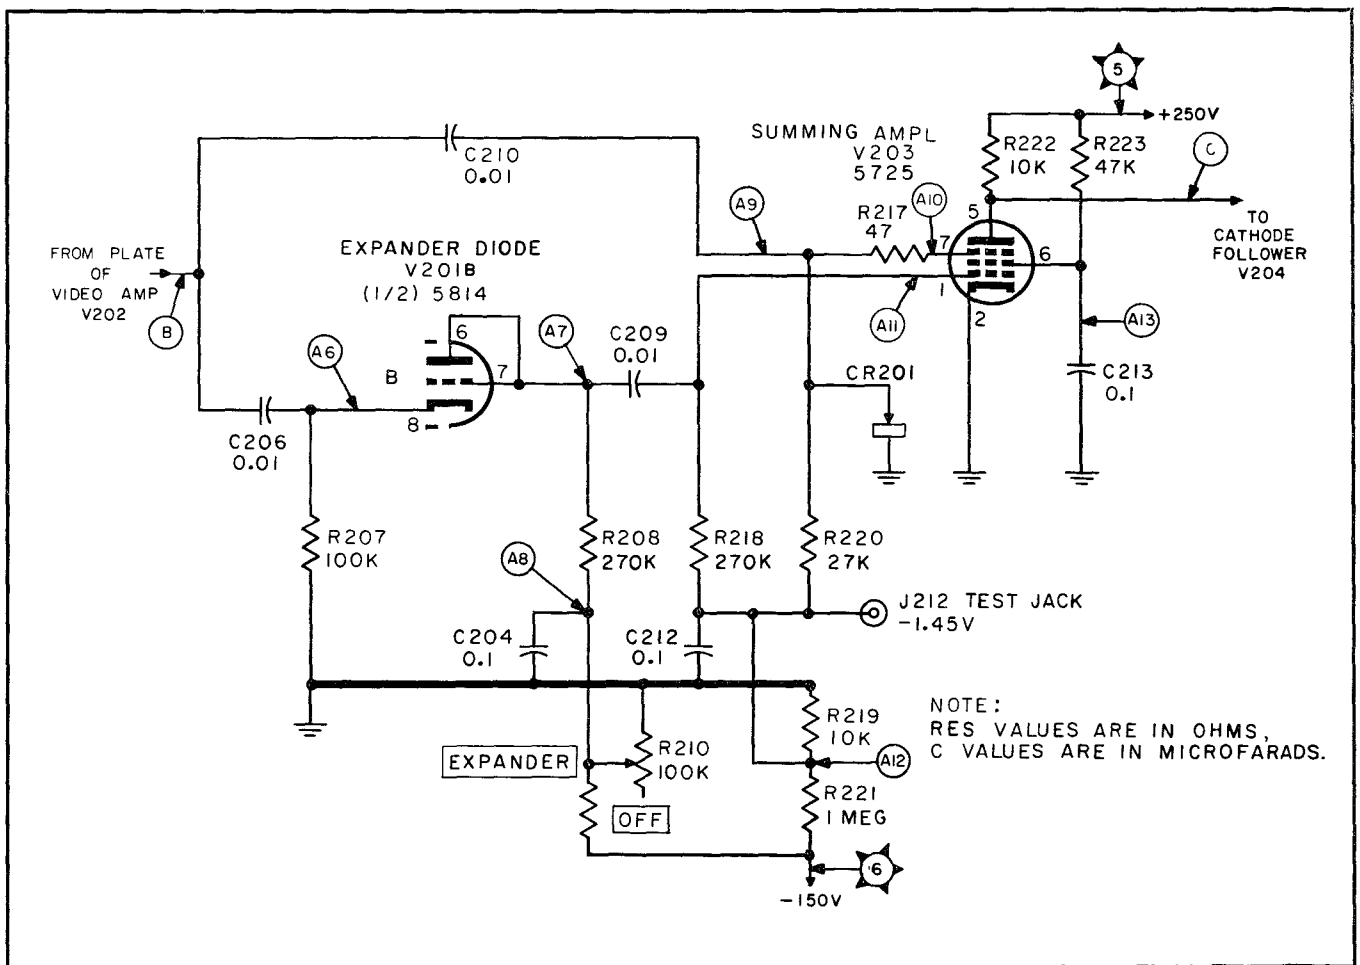

Figure 4-7. Azimuth Indicator Partial Schematic, Expander Diode and Summing Amplifier
- b. Expander Diode and Summing Amplifier (Figure 4-7).
4-22. EXPANDER DIODE AND SUMMING AMPLIFIER. (Figure 4-7.)
4-29. From the plate of V203, (figure 4-7) the video signal is applied to the grid of the video cathode follower V204 through coupling capacitor C214. R225 and R224 provide grid return for the stage, with C215 bypassing R224, for decoupling. R224 and R226 form a voltage divider for bias, R227 is the output load resistor of the cathode follower stage. C234 acts to set the limits of high frequency response of the video system as well as bypasses any r-f that may have gotten through to this point. From the cathode of V204, the